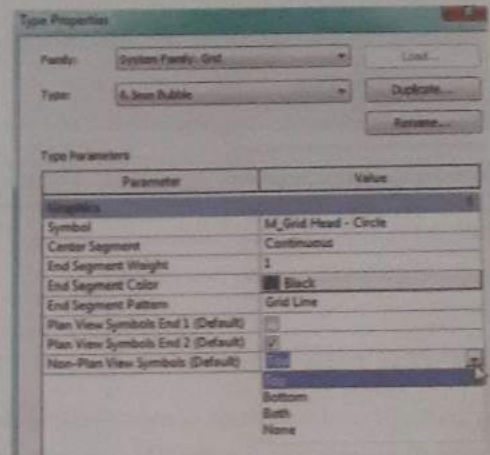

Figure 31: Type Properties-Grid
- In views other than plan views (such as elevations and sections), indicate where to display grid bubbles. For Non-Plan View Symbols Default, select Top, Bottom, Both top and bottom, or None (Figure 31).